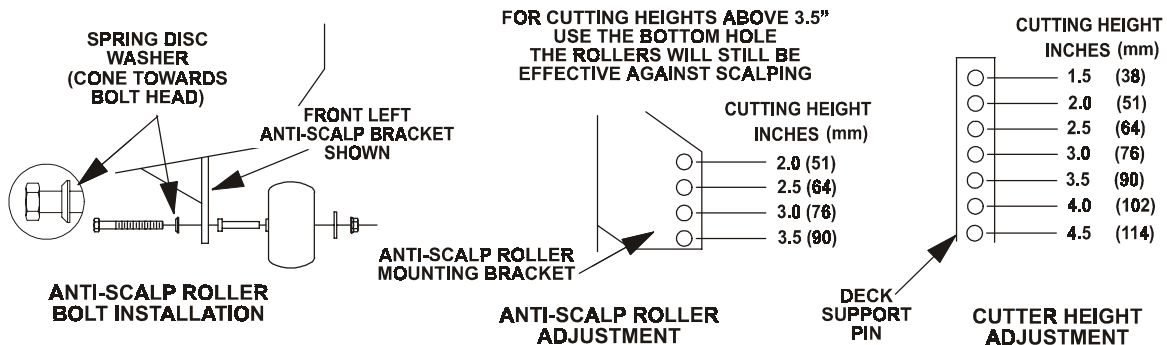

FIG 14
- a) Install hairpin clips in the holes shown on sketch below for the desired cutting height (See Figure 14).
- b) Adjust anti-scalp rollers for Normal Operating Conditions. Stop engine. Place rollers in one of the positions shown in Fig 14. Rollers will maintain 3/4 in. (19 mm) clearance to the ground to minimize gouging and roller wear or damage. **For Maximum Deck Flotation**, place rollers one hole position lower. Rollers should maintain 1/4 in. (6.4 mm) minimum
- c) When operating in extremely rough conditions it may be necessary to position the anti-scalp rollers one or two holes higher than described in "b" to prevent damage to the rollers and/or bolt failure(See Figure 14).